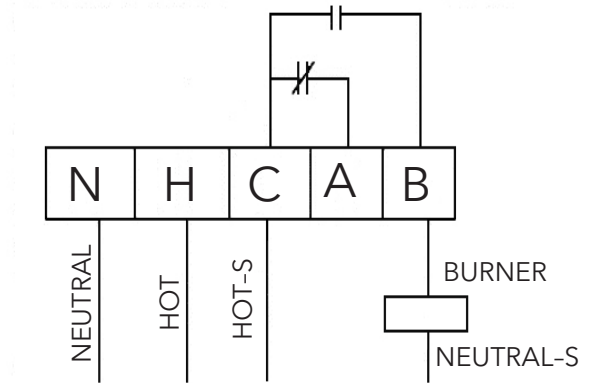

Figure 7
3.3 DIFFERENT VOLTAGE FOR THE CONTROL UNIT AND BURNER CIRCUIT. (Figure 7)